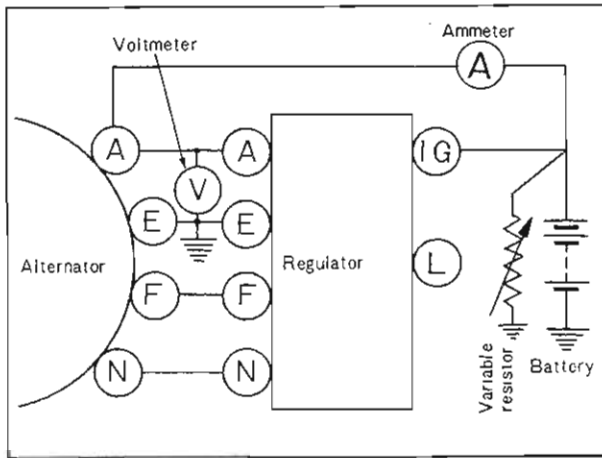

Fig. 5-27 Checking constant voltage relay
To check, use an almost fully charged battery and connect a voltmeter between the (A) and (E) terminals of the regulator, as shown in Fig. 5-27.